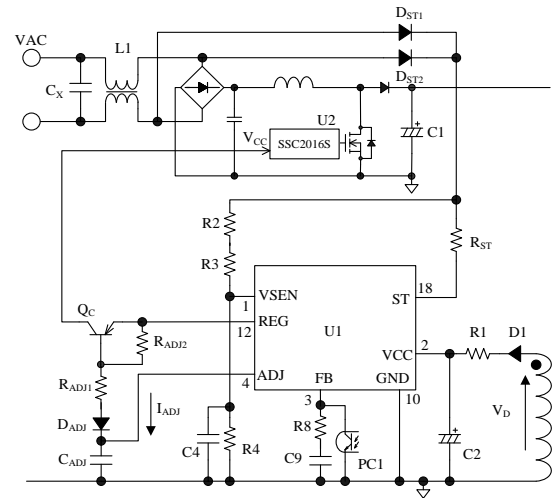

Figure 9-11. VCC Pin Peripheral Circuit When PFC On/Off Function is Enabled
Figure 9-11 shows the VCC pin peripheral circuit.
After the IC starts operating, a voltage to be applied on the VCC pin is the rectified auxiliary winding voltage, V_D , as shown in Figure 9-11.
- Increase the value of C2 in Figure 9-11 is increased and/or reduce the value of R1.